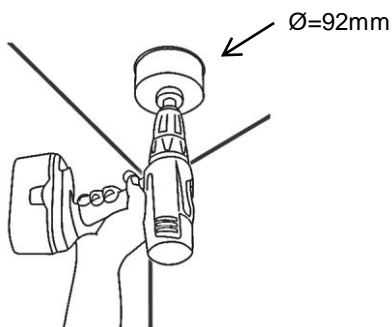

FIG 1
- Use a 92mm hole saw and carefully cut the hole in the plaster (FIG 1). Use appropriate personal protection equipment. Hole saws vary in the actual hole size they cut, so it is best to cut a hole in a scrap piece of plaster to check the fit.